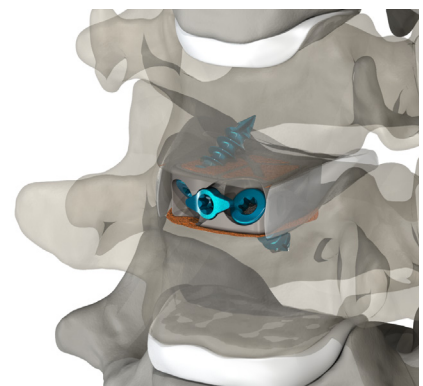

Figure 9.3
- ▲ Rotate the Locking Plate with the Straight Driver to approximately 90° clockwise to lock the Screws into the Implant Assembly (Fig. 9.3). The wings of the Locking Plate will stop against the recess on the anterior face of the interbody.